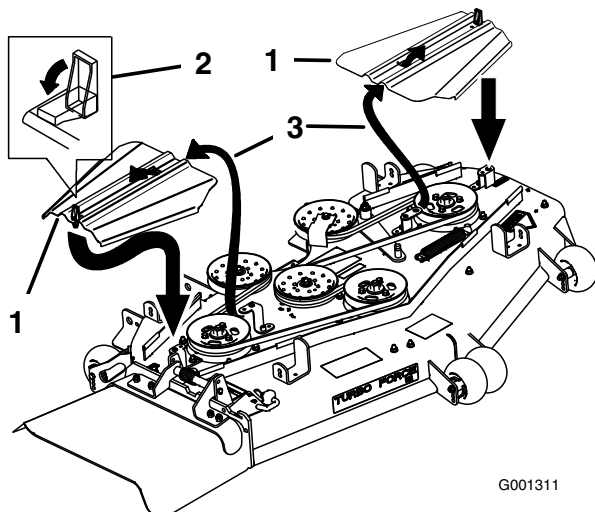

Figure 1
3. Remove the belt covers (Figure 1).